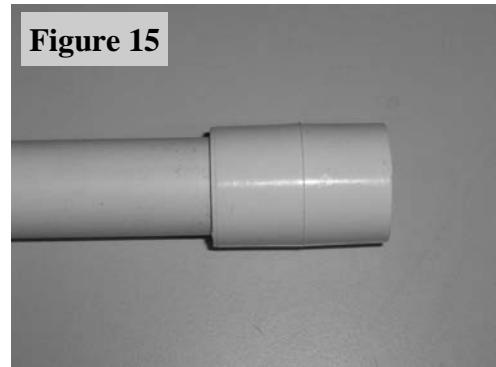

Figure 15
- Carefully remove the coupling, apply PVC glue (supplied) and reinstall the coupling making sure that it is seated firmly (**Figure 15**).